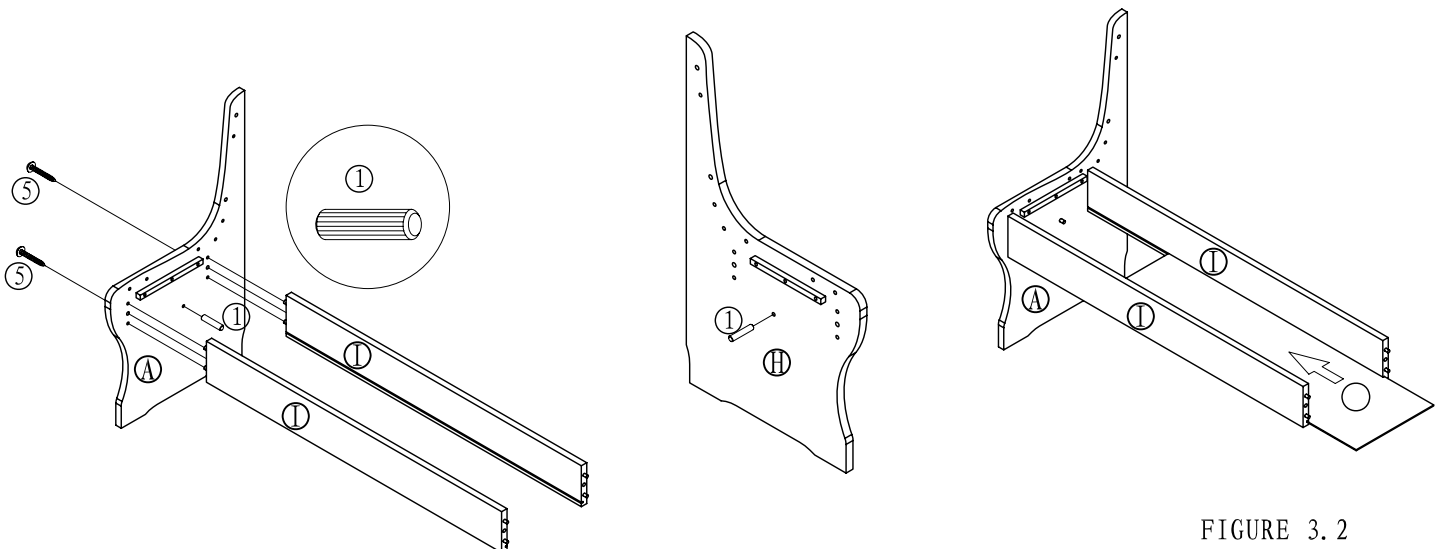

FIGURE 3.1
- 3.1 PLACE MIDDLE LEG #A ON FLOOR. ATTACH DOUBLE BENCH FRONT AND BACK RAILS #I TO MIDDLE LEG #A. USING PRE-DRILLED HOLES AS GUIDE, USING (02) SCREWS ⑤ AND ① PHILLIPS HEAD SCREWDRIVER (NOT PROVIDED) TO SECURE, INSERT (02) WOOD DOWELS ① INTO HOLES LOCATED ON THE MIDDLE LEG RIGHT #A. AS SHOWN IN FIGURE 3.1